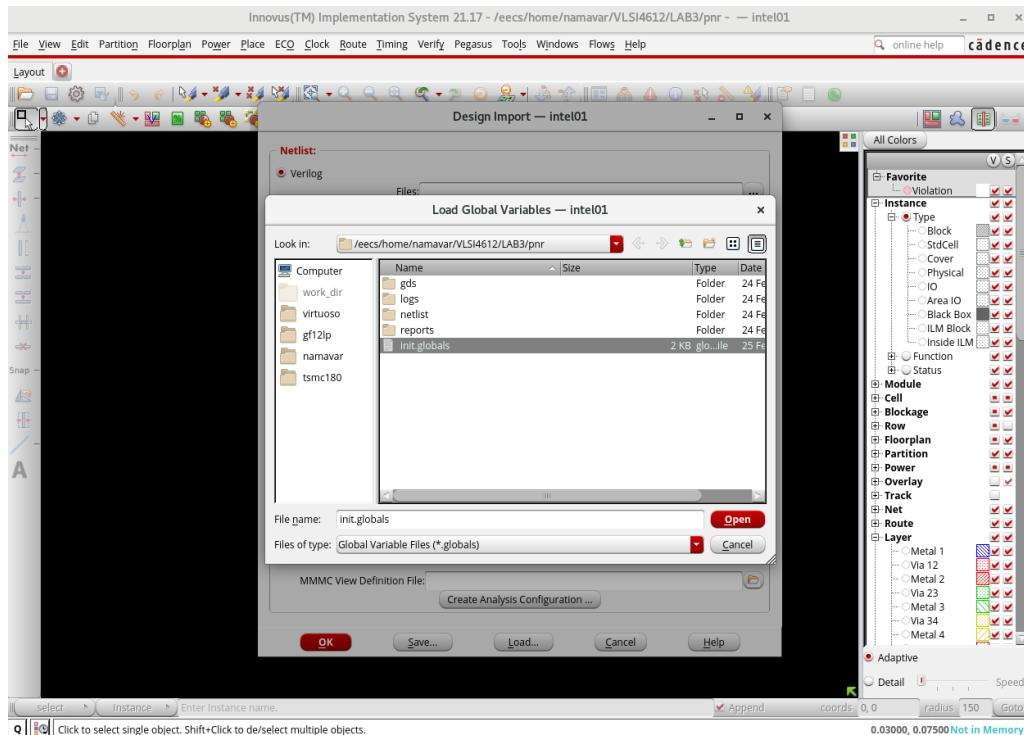

Figure 10: Loading the `init.globals` file in Innovus.
2. Navigate to the PnR/scripts directory and select `init.globals`, as shown in Figure 10.